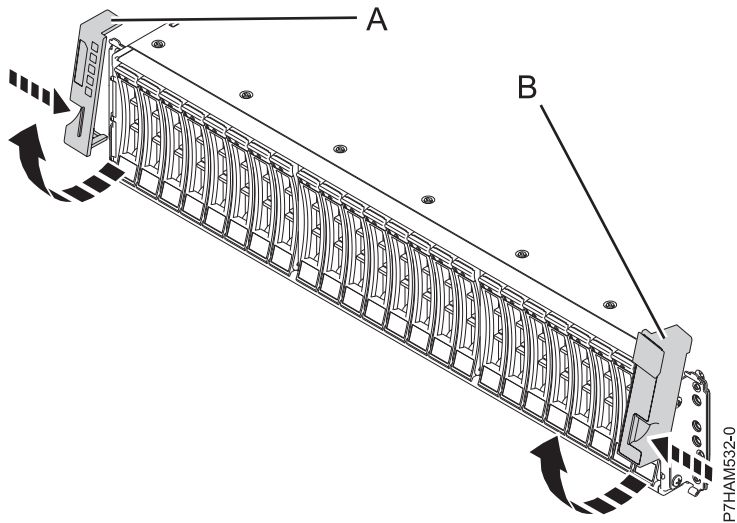

Figure 7. Removing the side covers
2. Remove the left side cover (A) and right side cover (B) to show the mounting brackets. Pinch the release to rotate the cover up and off from the chassis flange as shown in Figure 7 on page 8.